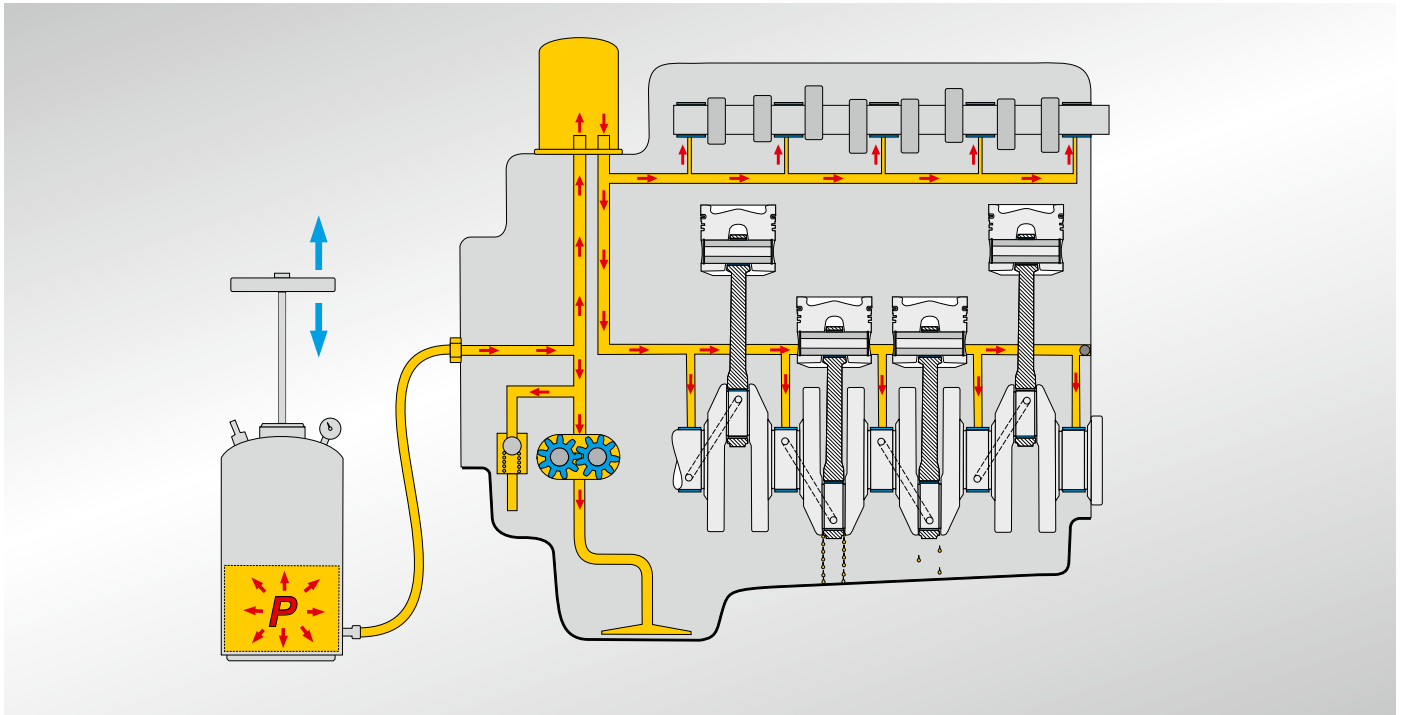

Fig. 1
1. With the assistance of a pressure tank, at least 30% of the normal engine oil capacity is pumped into the engine through a threaded connection in the oil pressure system (Figures 1 and 2). The screw plugs provided by the engine manufacturer are the most suitable connection points for this purpose. If no such plugs are available, a plug can be removed from an oil hole or an oil pressure switch to make the connection, if necessary.